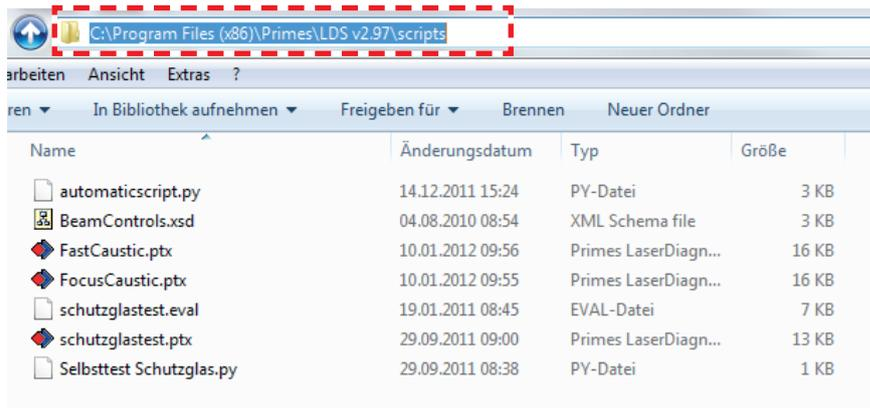

Fig. 19.23: Script directory
The script controlled LDS offers the possibility to evaluate several beam parameters to qualify the measurement. The evaluation is controlled by files with the extension “*.eval”. One of these files is installed with the LDS in the script folder (see Fig. 19.23).
- Copy the file **BeamControls.xsd** in the explorer from the script path (Fig. 19.23 on page 55) to the save directory (BCS_Saves).